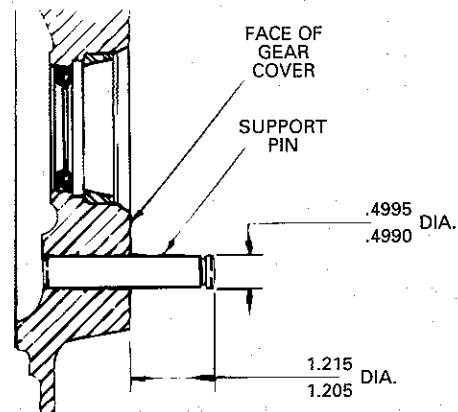

Fig. 2
3. Inspect balancer gear support pins (Ref. 5) for excessive wear. Replace if out of round by more than 0.00075 inch, or if diameter is more than 0.001 inch under low limit dimension shown in Fig. 2.
4. To replace balancer gear support pins – Drive out old pins and press in new pins. Pins must be straight and should extend out from finished face of gear cover to within 1.215 – 1.205 inches. See Fig. 2.